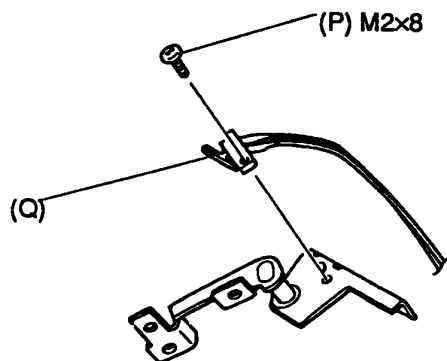

Figure 4-34 Removing the display disable switch
10. Remove the one (M2x8) screw (P) securing the display disable switch (Q) (Figure 4-34).
1. Place the display disable switch on the top cover and secure it with the one (M2x8) screw (Figure 4-34).